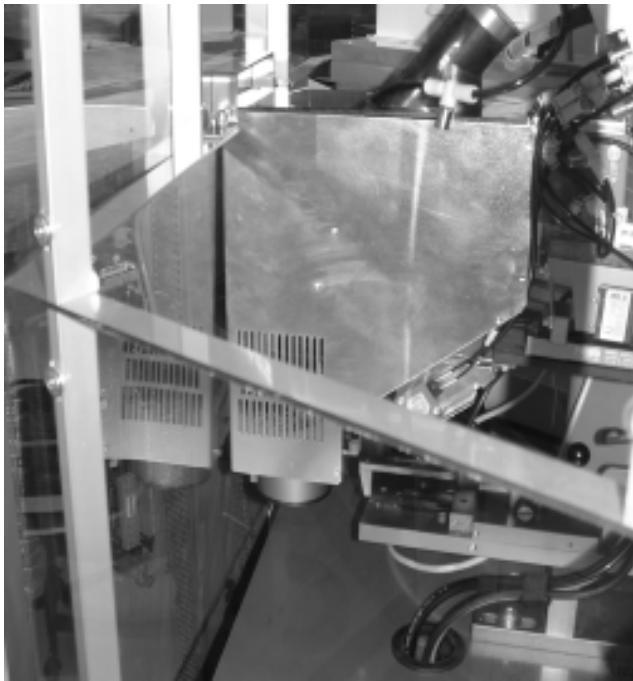

Figure 4
- The PAWO unit may be close to the guard as shown in Figure 4.